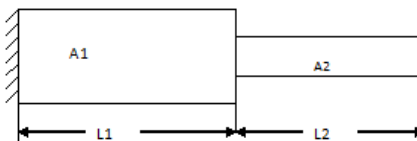

Figure 3
10. For the stepped bar shown in the figure 3. Develop the global stiffness and mass matrices and also determine the natural frequencies and mode shapes. Assume $E = 200 \text{ GPa}$ and mass density $= 7850 \text{ kg/m}^3$, $L_1 = L_2 = 0.3 \text{ m}$, $A_1 = 350 \text{ mm}^2$, $A_2 = 600 \text{ mm}^2$. [10]